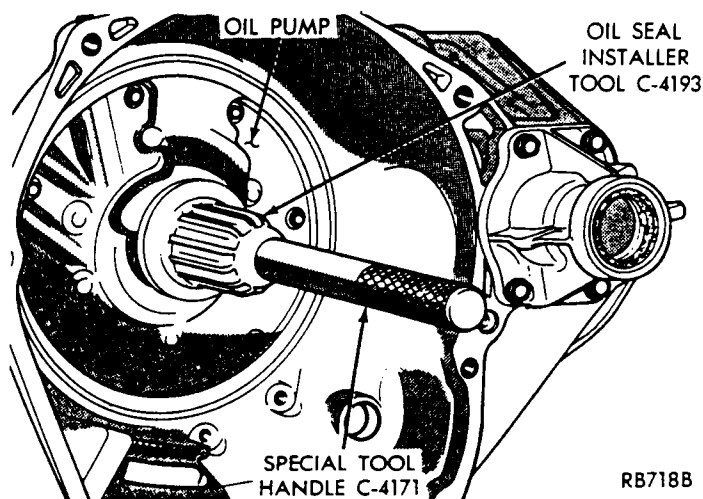

Fig. 2—Install Pump Seal
(2) To install a new seal, place seal in opening of the pump housing (lip side facing inward). Using Tool C-4193 and Handle Tool C-4171, drive new seal into housing until tool bottoms (Fig. 2).